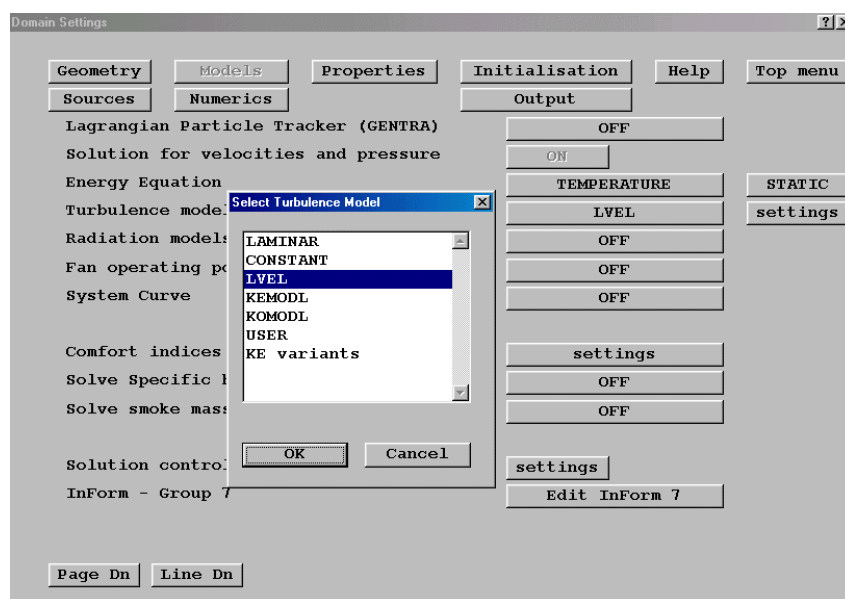

Figure 2.14 Select LVEL on the "Turbulence Models" page of the Main Menu.
- Click on the 'Turbulence models' button to bring up a list of available turbulence models. Select the 'LVEL' Turbulence model from it as shown in figure 2.14.